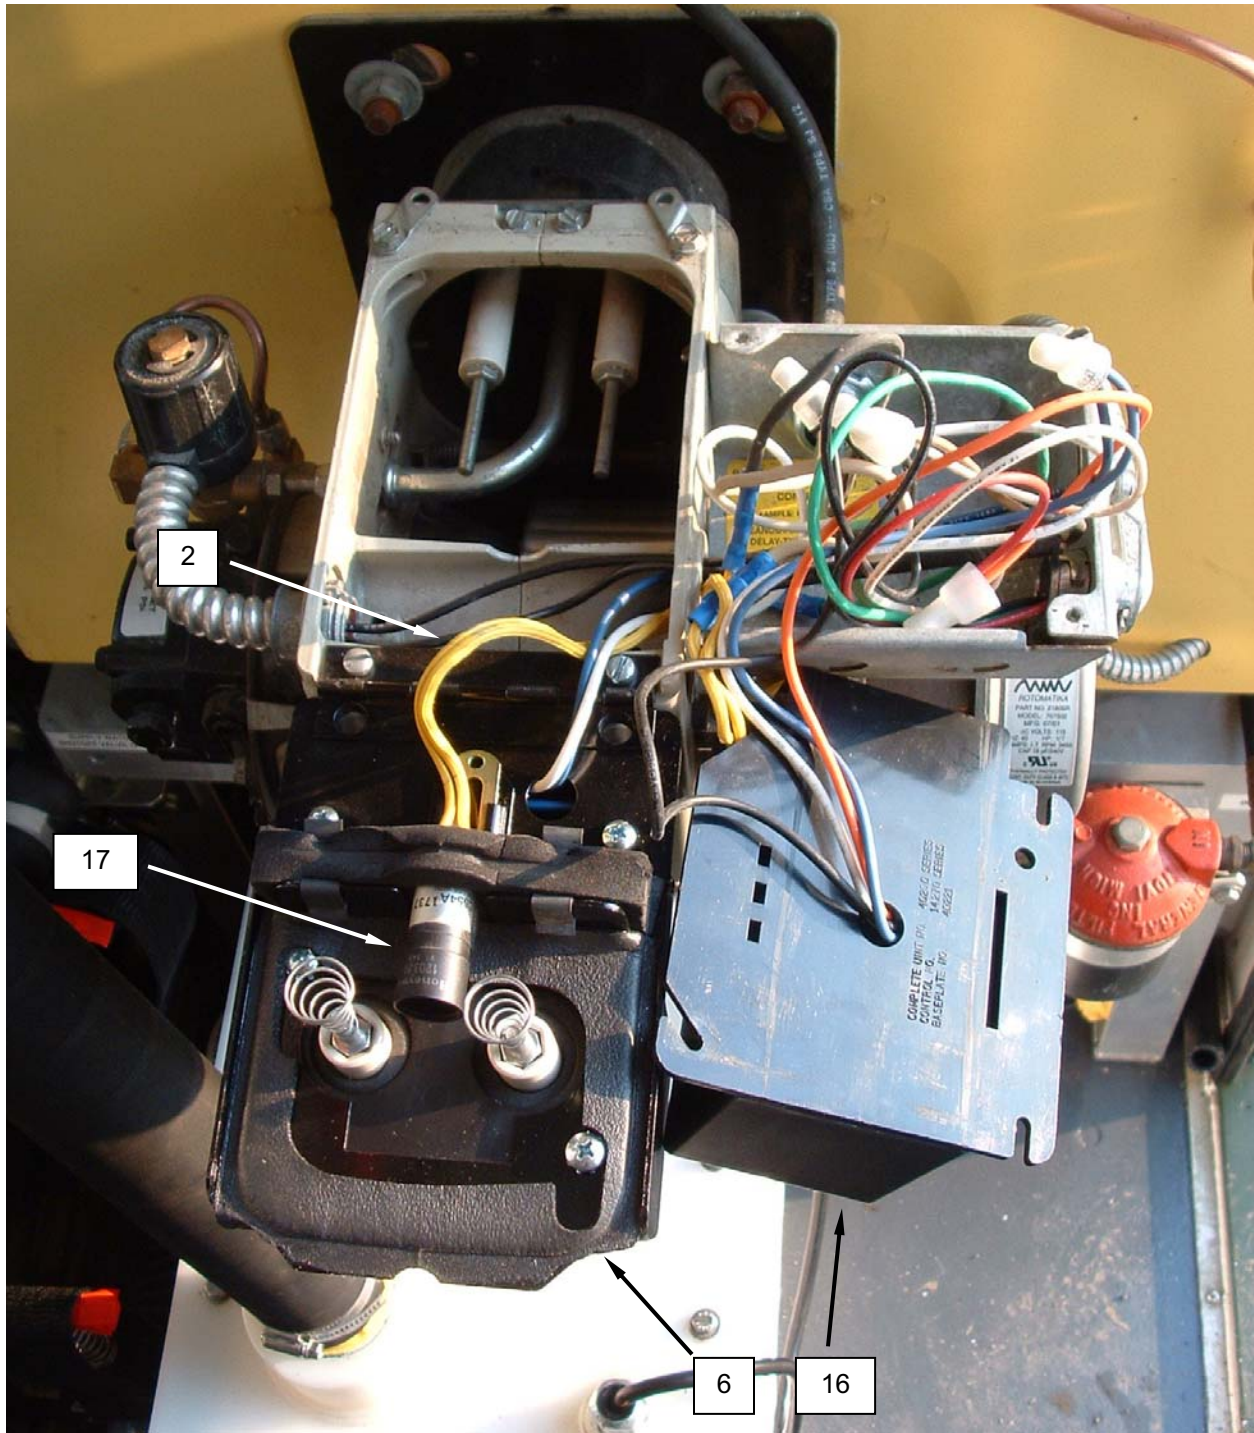

Figure 10. Replace the CAD Cell.
2. Remove screws retaining transformer (**Figure 10, Item 6**), and swing transformer up and out of the way.
3. Remove screws retaining controller (**Figure 10, Item 16**) to burner.
4. Remove controller (**Figure 10, Item 16**) from burner.
5. Tag and disconnect wiring (**Figure 10, Item 23**) from CAD cell (**Figure 10, Item 17**).
6. Remove CAD cell (**Figure 10, Item 17**) from burner.
7. Insert replacement CAD cell (**Figure 10, Item 17**) into burner.
8. Connect replacement CAD cell wiring (**Figure 10, Item 18**) as tagged.
9. Install controller (**Figure 10, Item 16**) as an assembly onto burner, and retain with screws.
10. Swing transformer (**Figure 10, Item 6**) back into place and retain with screws.